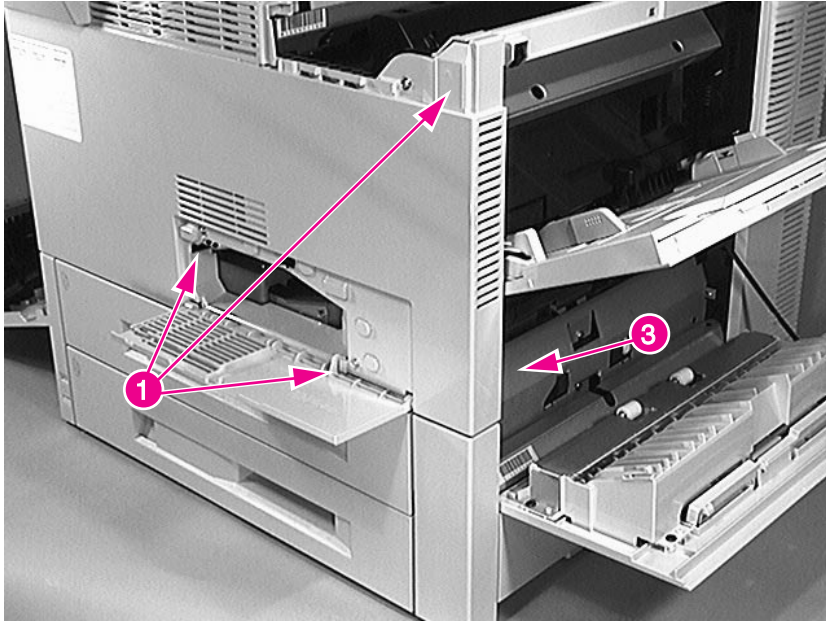

Figure 6-7 Front Cover (1 of 2)
- 2 Open the front access door, and remove 3 screws (figure 6-7, callout 1).
- 4 Carefully pull the bottom of the cover away from the chassis while moving it to the right to release the retaining tab (figure 6-7, callout 3).
- Front Cover (see figure 6-7 on page 170)